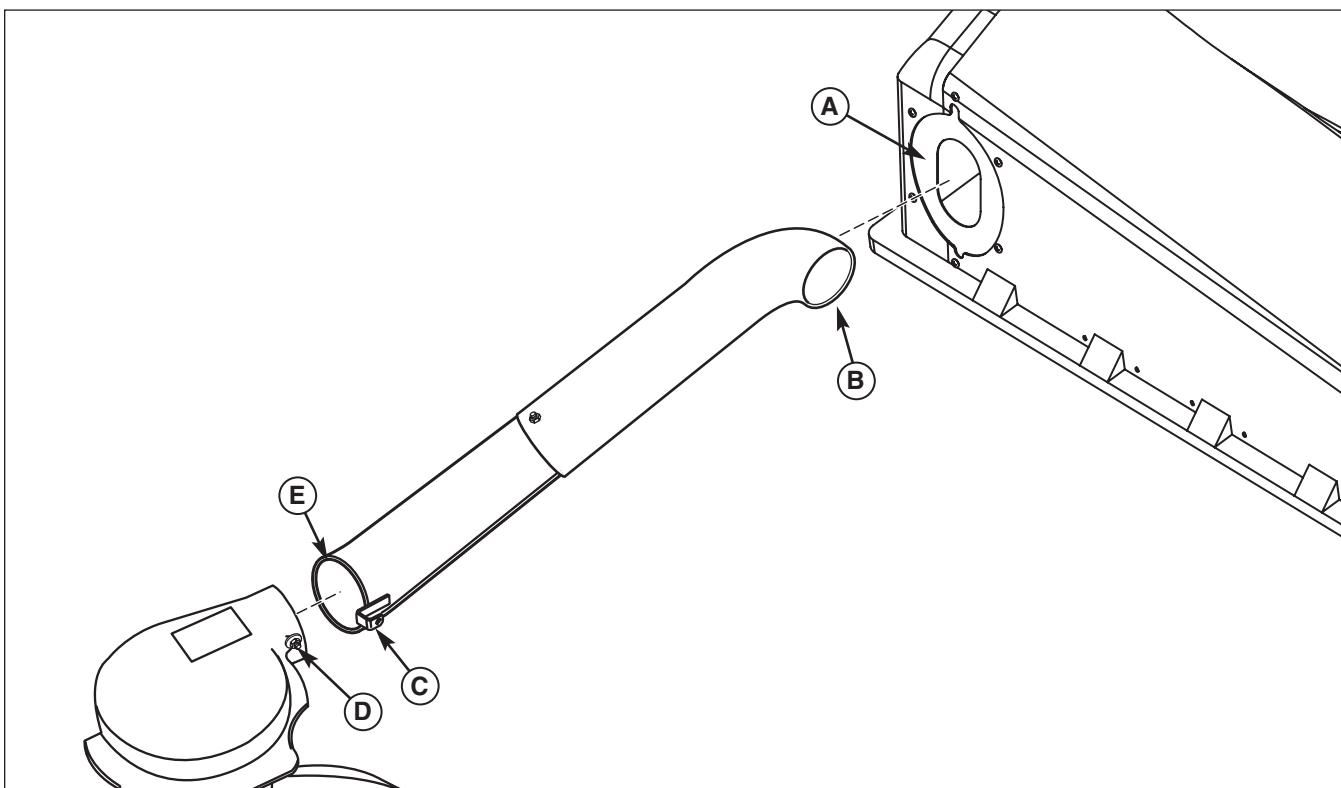

Figure 27. Connect Tube to Hood and Turbo
4. Slide the discharge end of tube assembly (A, Figure 27) through the seal (A). This may require some rotating or turning of the discharge end of tube assembly.
5. Slide the intake end of tube assembly (E) over the turbo aligning clip (C) and nut and capscrew (D).
6. Lift clip (C) over nut and capscrew to secure tube to turbo.